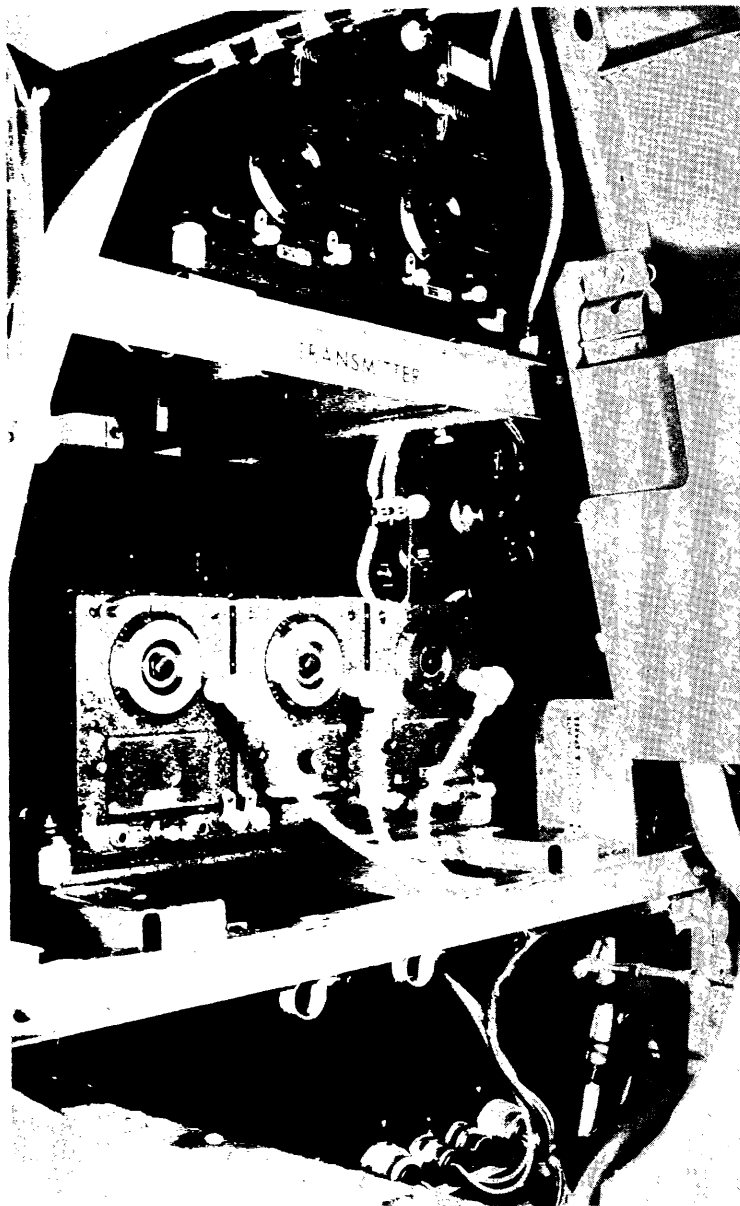

Figure 210 - Radio Equipment
(1) Working through the access door in the fuselage remove the duffle bag. Remove the two radio transmitters from the top shelf forward of the access door. (See figure 210.) Remove the top radio shelf by withdrawing the retaining bolts at the four corners of the shelf attaching the shelf to station No. 8 and No. 9 bulkheads. Remove the three radio receiver units from the center shelf. If a radio receiver and transmitter set is installed on the shelf aft of the access door, remove this unit also to provide additional room for a man to climb inside the fuselage.
(2) Be sure that the radio equipment on the top and center shelves forward of the fuselage access door is removed. (See figure 210.) Also remove the top shelf.